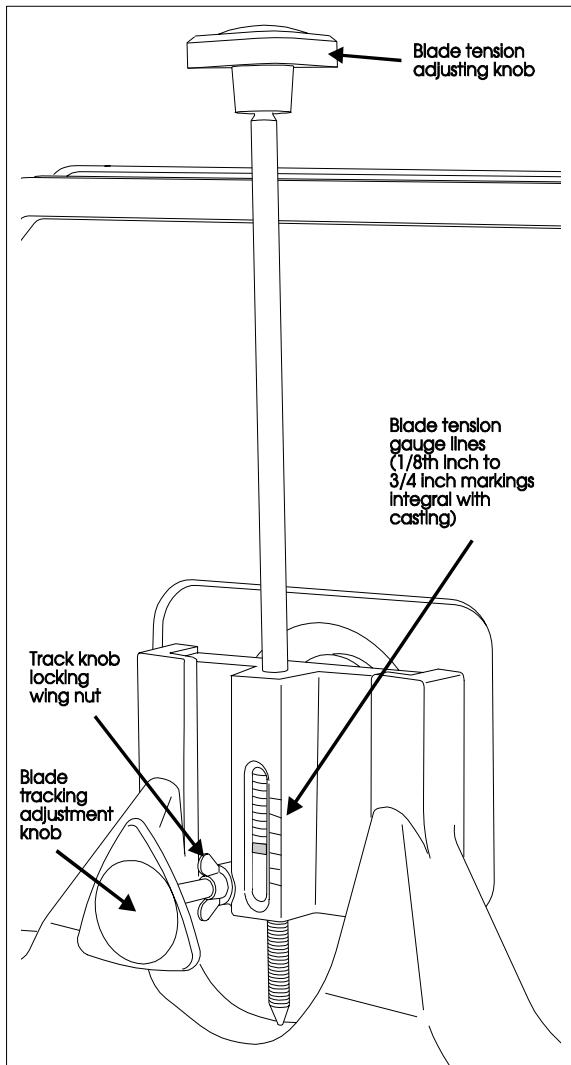

Figure 7. Saw Blade Tension and Tracking Mechanism
1. To adjust the support, loosen the knob that clamps the support rod, then move the support up or down in its holder. (Refer to Figure 7 location of the support mechanism.)